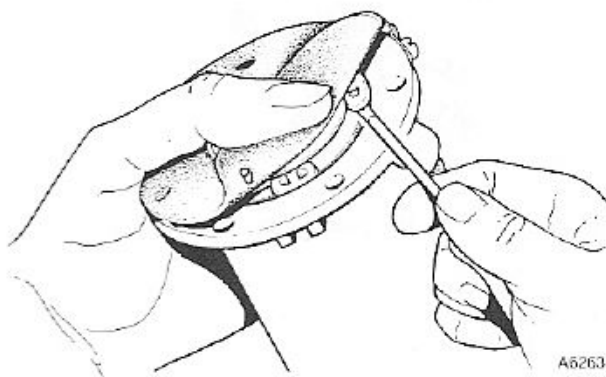

Fig 1. Gently probe the two end lobes of the armature guide plate free from the coil recess.
- 3 Unscrew coil housing securing screws (7), using a screwdriver with a well-fitting blade to avoid damaging the screw heads.
- 4 Remove the earthing screw (9).
- 5 The coil housing (6) may now be removed from the body (1). Next turn back the edge of the diaphragm assembly (2) and remove the armature guide plate (3) from the coil recess (see Fig. 1).